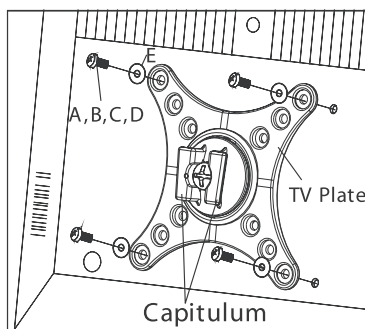

Fig 3
Choose bolts according your display's hole size. Use chosen bolts(A-D) and washers(E) to install the LCD on the panel, as shown in Fig3. Notice capitulum is down.